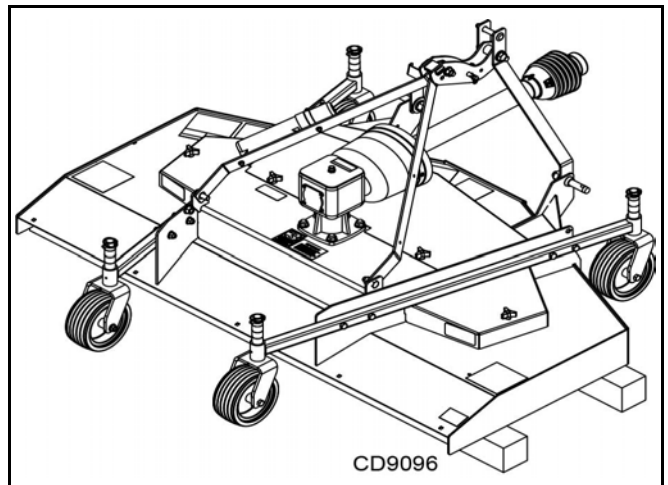

Figure 14. Mower Storage Position
4. Place blocks under mower side skids. Lower mower onto blocks, disconnect mower from tractor 3-point hitch, and carefully drive tractor away from mower. See Figure 14.